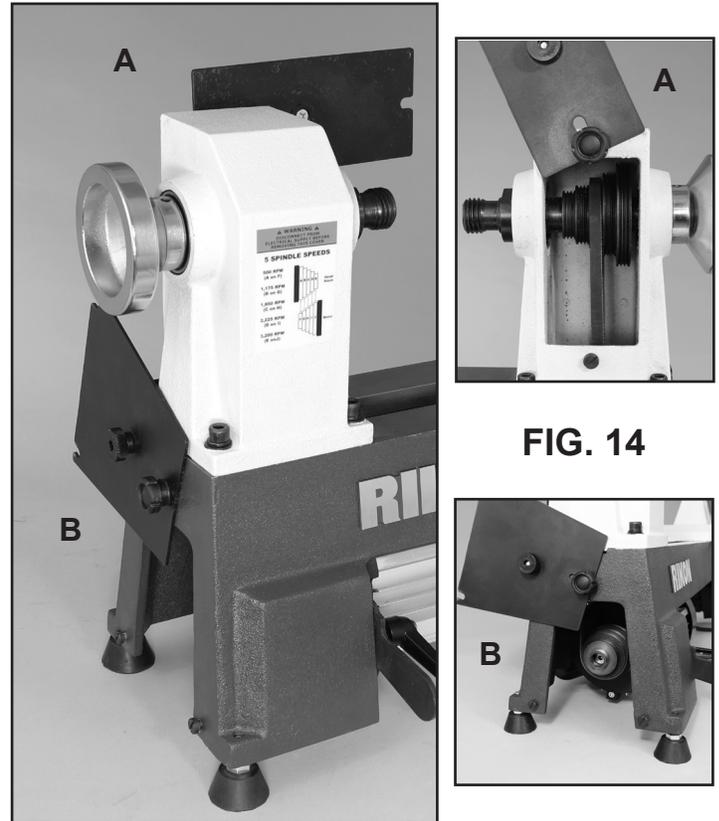

FIG. 14
3. Open the rear spindle pulley cover (FIG. 14, A) and the lower, side motor pulley cover (B) to gain access to the drive belt and pulleys that are inside of the headstock and bed casting.
4. Loosen the motor mount locking lever handle (FIG. 13, F) and lift the motor mounting plate lever (G) to loosen the tension on the belt. The belt can now be removed from the lower motor pulley (FIG. 14, B).
6. Remove the set screw(s) that attaches the spindle pulley to the spindle. The pulley should now be loose on the spindle. FIG. 14, A.